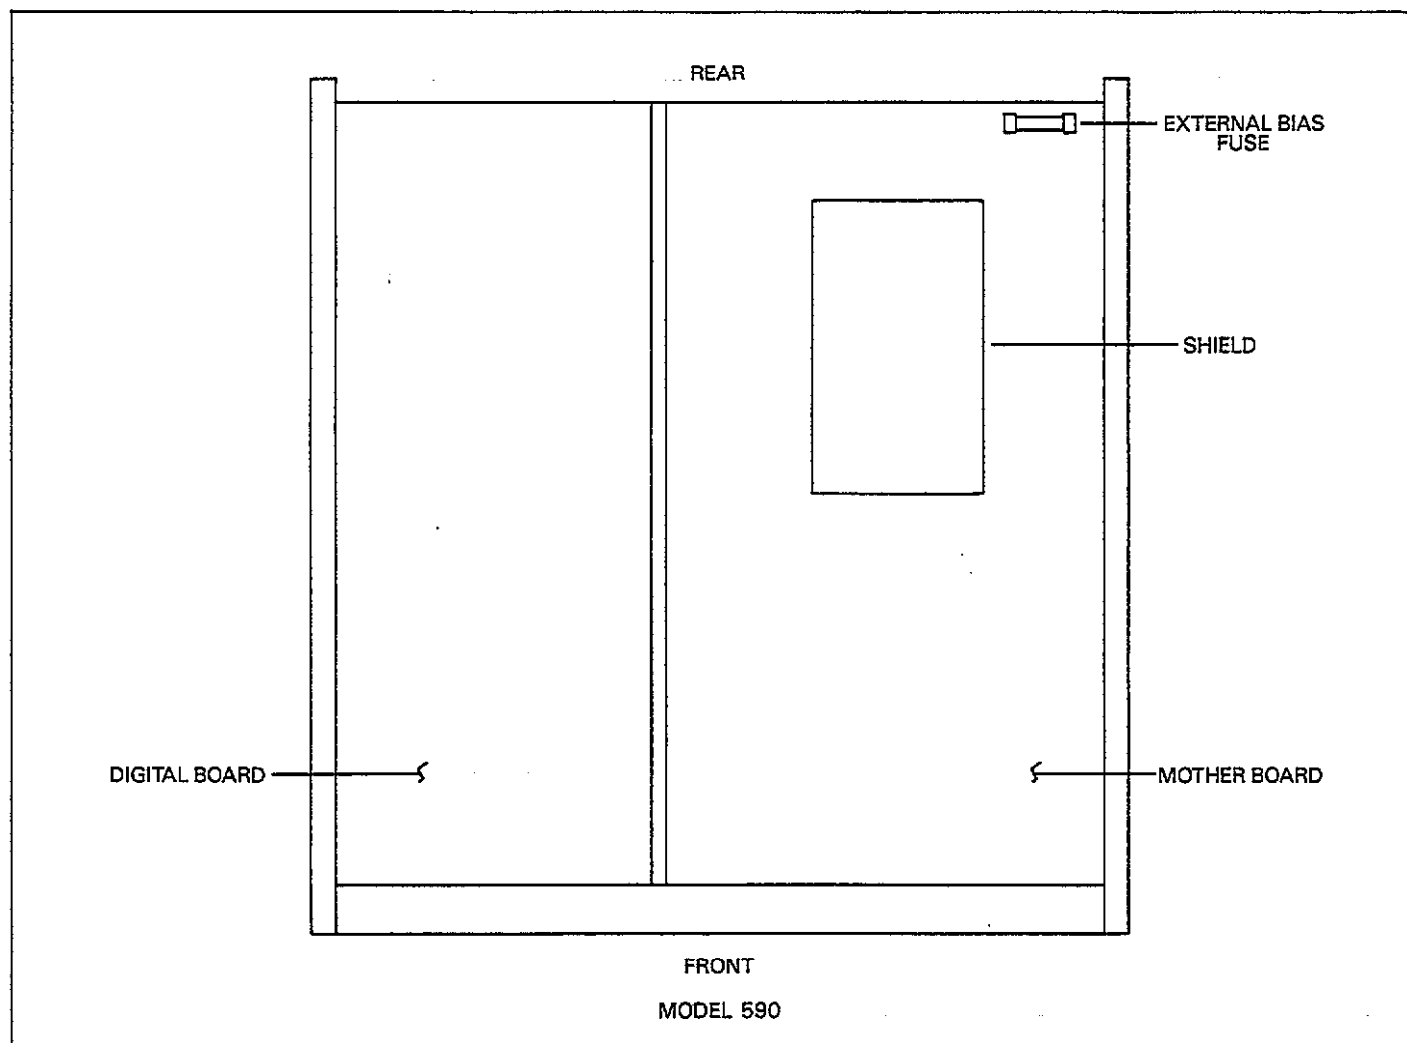

Figure 7-2. External Bias Fuse Location
2. Refer to Figure 7-2 for the location of the external bias fuse. Using a fuse puller, remove the fuse from the fuse clips.